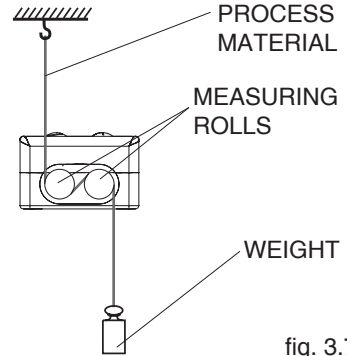

fig. 3.7
All tension meters are calibrated with standard materials - such as polyamide monofilament (PA) - according to the SCHMIDT factory procedure. The diameters are given in Chapter 2. Any difference in process material size and rigidity from the standard material may cause a deviation of the accuracy. In 95% of all industrial applications, the SCHMIDT calibration has been proven to provide the best results and is used for comparative purposes. The tension meter is factory calibrated for a vertical material path (fig. 3.7).
- Hang a WEIGHT which corresponds to the tension to be measured from the PROCESS MATERIAL, vertically, as shown in fig. 3.7.